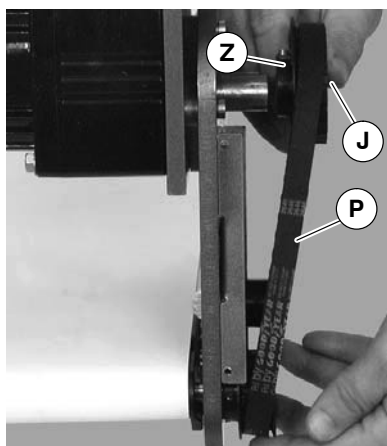

Figure 18
NOTE: If drive pulley (J of Figure 18) was replaced, wrap timing belt around drive pulley and complete step 3.
6. Loosen drive pulley set screws (Z of Figure 18). Remove drive pulley (J) and timing belt (P).
NOTE: If drive pulley (J of Figure 18) was removed, wrap timing belt around drive pulley and complete step 11.